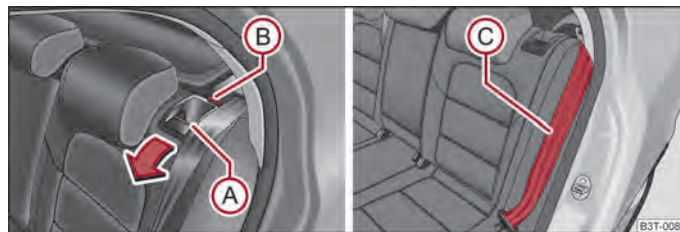

Fig. 61 Unlock the seat backrest/lock the seat backrest
- Unlock the seat backrest by pressing the unlocking handle (A) ⇒ fig. 61 and fold it completely forwards.
- Place the rear lateral seat belt (C) ⇒ fig. 61 behind the edge of the side trim panel.
- Make sure that the red pin (B) is hidden.